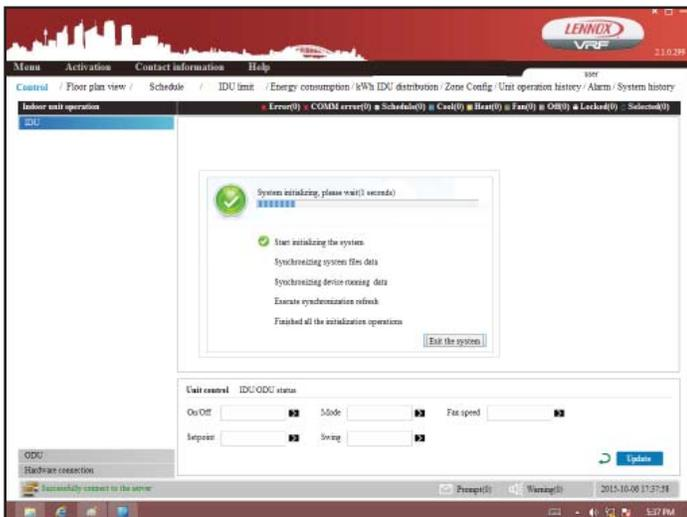

Figure 7. System Initiation
- To cancel initialization and exit the system, press 'Exit the System'. See figure 7.